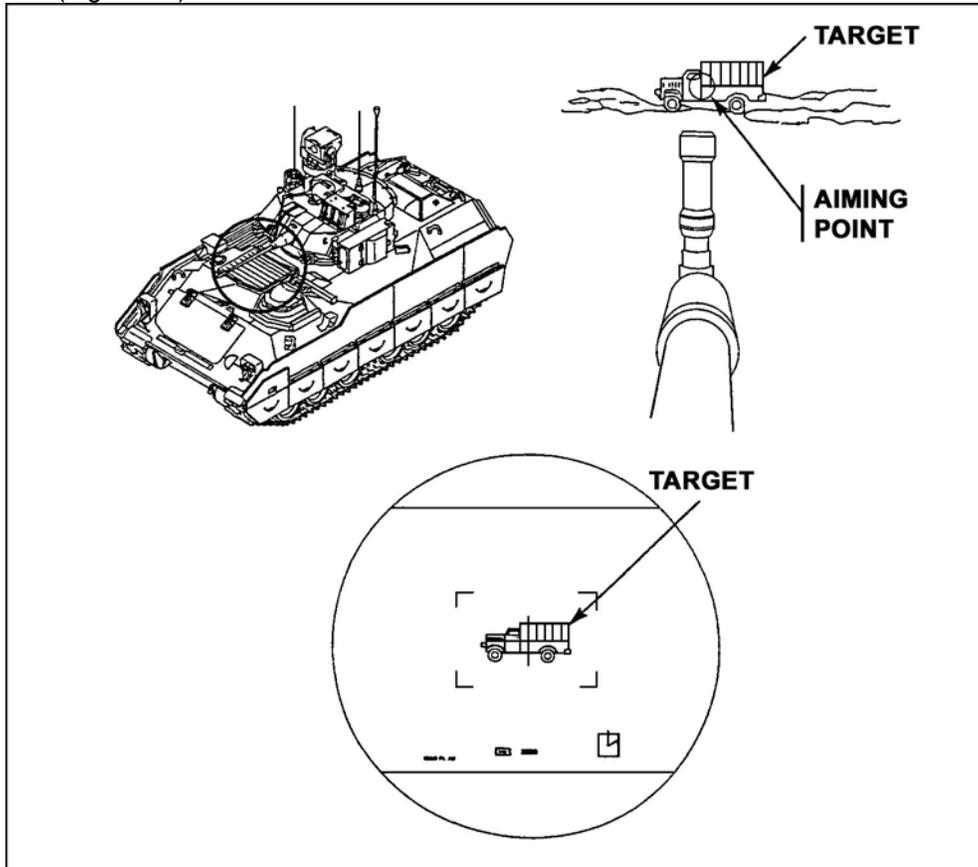

Figure 24. TAS reticle.
- (b) To move the reticle in azimuth (AZ), loosen the horizontal adjustment locking screw using the Allen wrench located in the 7.62mm boresight kit and turn the horizontal adjustment screw clockwise or counterclockwise.
- (4) Use DVO (preferred), or DAY TV.
- (5) Select high magnification (HI MAG) - narrow field of view (NFOV) using HI/LO MAG switch on the GHS.
- (6) Center target acquisition system (TAS) reticle on the boresight panel using the GHS (Figure 24).